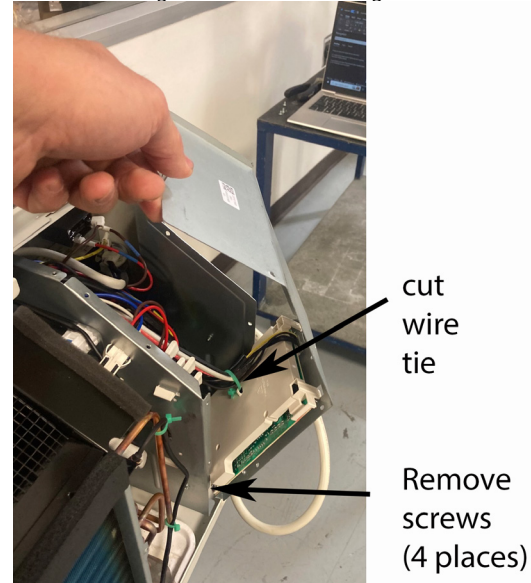

Figure 508
5. Remove Logic PCB cover. See figure 508.